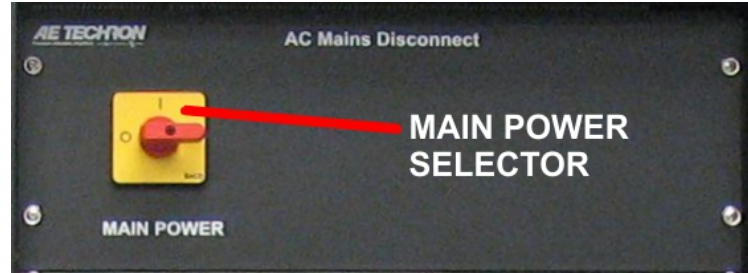

Figure 3.1 Main Power Selector
The cabinet Main Power Selector is located near the top of the cabinet on the cabinet front (see **Figure 3.1**). Turn the Main Power selector to the “ON” (I) position to enable the main power supply. To disable the main power supply, turn the Main Power selector to the “OFF” (O) position.
Turn the Main Power selector to the “ON” (I) position to enable the main power supply (see **Figure 3.1 or 3.2**). When Main Power is enabled, the unit will automatically begin the power-up sequence to activate the system. When the power-up sequence is complete for all amplifiers, the Stop and Standby LEDs will be lit for all amplifiers, and the LCD Screen will display the V_{PEAK} / V_{RMS} / I_{PEAK} / I_{RMS} meters (multi-display) (see **Figure 3.5**).